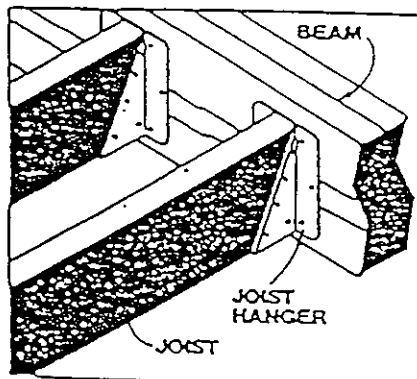

FIG. 1
2. Members (beams) supporting joists shall be doubled if the distance between support posts exceeds 4'. (SEE FIG. 1)